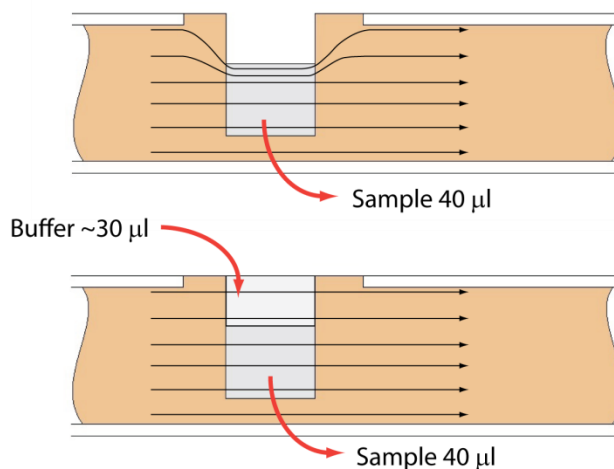

Figure 11.1. An illustration of the electrophoretic effect on a DNA sample when a sample well is not completely filled.
Proper sample loading is critical for best performance of BluePippin cassettes. For maximum reproducibility and accuracy, the sample should travel through the central section of the gel column, and should be bounded on all four sides by uniformly conductive media – either gel or electrophoresis buffer. The goal of the loading procedure is to produce this geometry in the sample loading well, as illustrated in the bottom section of **Figure 11.1**. Properly prepared samples will be 40 μ l in total volume consisting of 30 μ l of DNA mixed with 10 μ l of BluePippin internal standard mix or loading solution. The loading solution contains concentrated Ficoll as a densifying agent (see the previous chapter on Sample Preparation for details), and therefore the samples will sink and form a high density layer beneath the electrophoresis buffer when pipetted slowly into the sample wells. If there is insufficient conductive buffer over the sample, the electrophoretic forces lines will curve upward as the sample exits the well (see **Figure 11.1**, upper section), and the sample will be drawn to the top of the cassette where it can travel out of the gel into the gap between the gel column and the plastic top of the channel. Sample moving in this gap will travel at a different rate than the sample inside the gel column, and will lead to elution of undesired size fractions in the eluted material. In such cases, the contaminating DNA will usually (but not always) be higher in molecular weight than the selected DNA.
2. **Remove 40 μ l of buffer from the first sample well, and load 40 μ l of sample (or marker) into that well.** Take care not pierce the agarose with the pipette tip. There is gel on all sides and bottom of the sample well. In addition, there is an agarose “chimney” surrounding the top of the sample well that protrudes up through the cassette cover (see **Figure 11.1**). When removing buffer, some users find it useful to immerse the pipette tip just below the surface of the buffer and follow the liquid level down with the tip as the buffer is removed. When buffer removal is completed, there will be ~30 μ l of buffer left in the well. When adding sample, place tip of pipette just below the surface of the buffer, and follow the liquid level up with the tip as the well fills. Don’t be concerned if the sample well slightly overfills. The density of the sample will allow it to sink before it can flow out of the well.